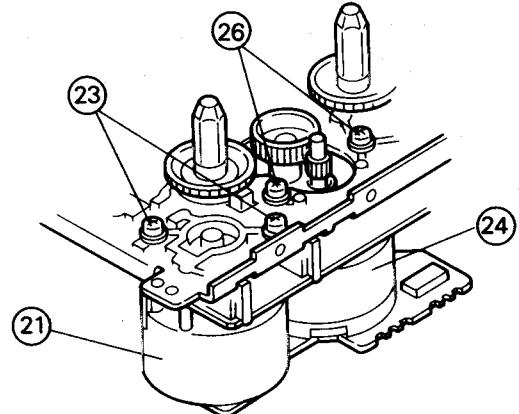

Fig. 7-31
(Refer to Figs. 7-31 and 7-32)
1. Remove the four screws (23) and (26) retaining the reel motor (21) and actuator motor (24) ass'y (Refer to Fig. 7-31).